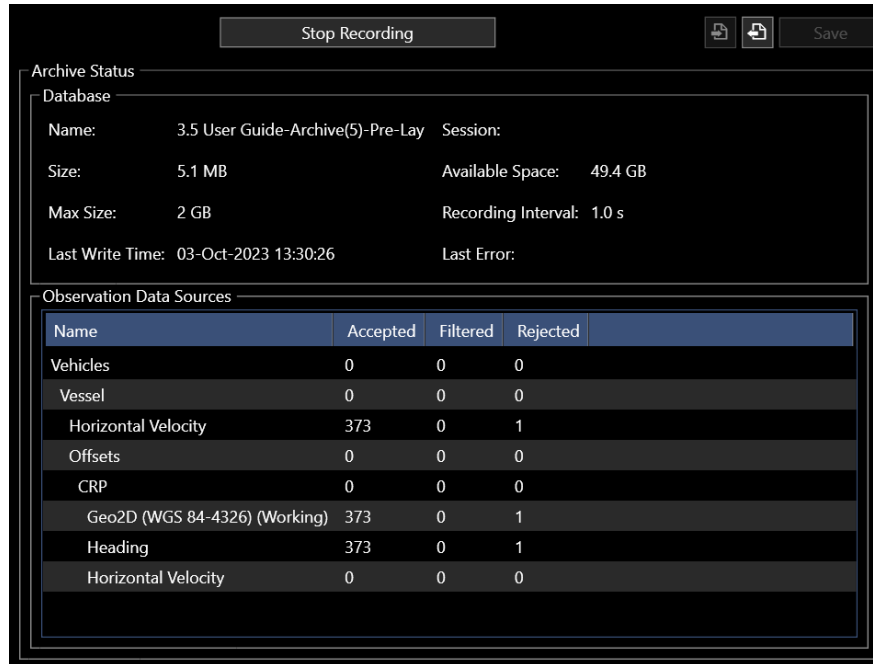

FIGURE 14-68 DATA RECORDING – ARCHIVE STATUS - EXPLORER
3. Data recording starts and the view changes to a data recording monitoring view (see Figure 14-68)